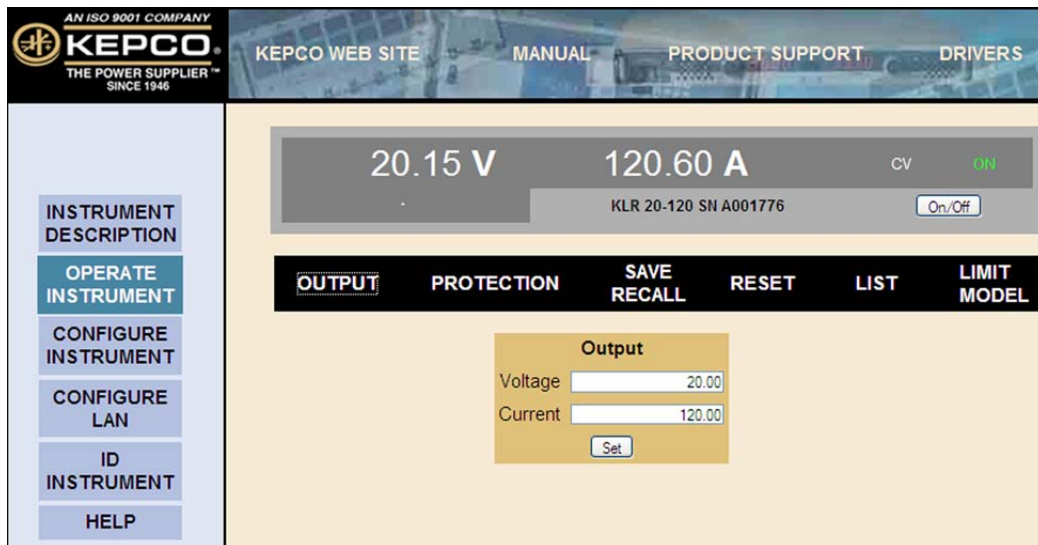
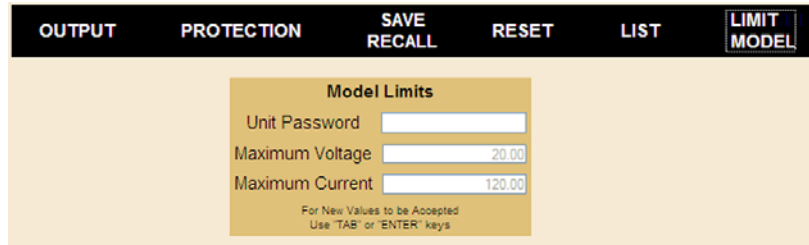

FIGURE 3-7. WEB INTERFACE OPERATE INSTRUMENT PAGE
FIGURE 3-13. LIMIT MODEL DIALOG BOX
The Output dialog box opens when the OPERATE INSTRUMENT page is first opened, or when **OUTPUT** is clicked (see Figure 3-7). To set output voltage or current, enter the values and click **SET**. Voltage and current settings are not allowed to exceed either a) the limit model setting or b) 83.3% of the protection value. Attempts to set voltage or current beyond these limits will not be accepted. To turn the output on or off, click the ON/OFF button within the simulated front panel.
- **To save the active settings:** Enter the desired location (1 to 40) in the **LOCATION** box and click **Save State** button to save the active settings. Only the parameters shown in Figure 3-7 can be saved.
Refer to PAR. 3.2.9 for details about what Limit Model means for KLR and how the limit model affects other parameters. Click **LIMIT MODEL** (Figure 3-7) to open the Limit Model dialog box (Figure 3-13). The current limit model settings are displayed. To change the settings enter the Unit Password (see PAR. 3.2.8) and press ENTER key on the computer keyboard. After the password is accepted, the Unit Password field is inaccessible (gray) and the Maximum Voltage and Maximum Current fields can be changed. Enter the desired maximum voltage and maximum current, then press ENTER key; all fields are gray for a second or two while the power supply accepts each entry. The Password field is reset after leaving the Limit Model dialog box.